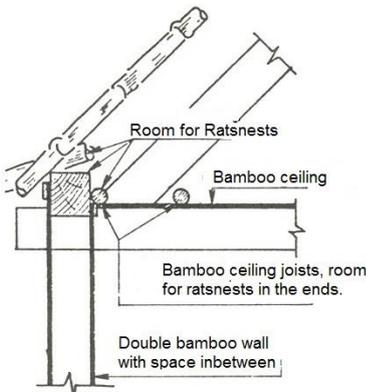

Figure 2a. Side purlin – wrong method.
- I. The potential rat-nesting areas can be seen in Fig. 2a: